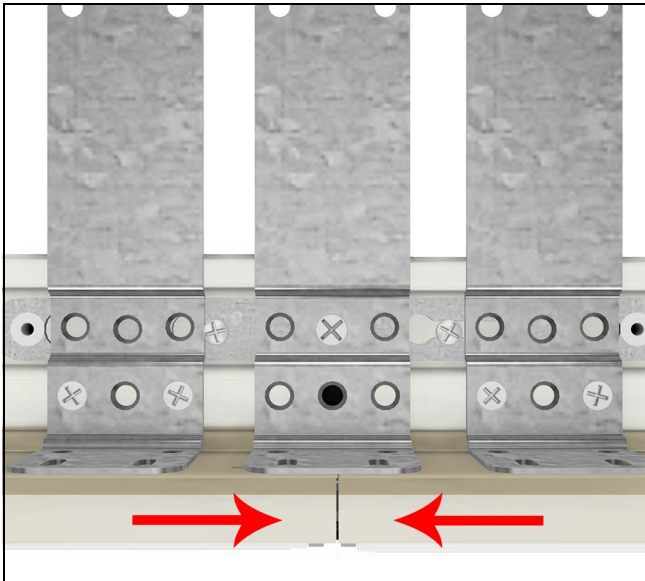
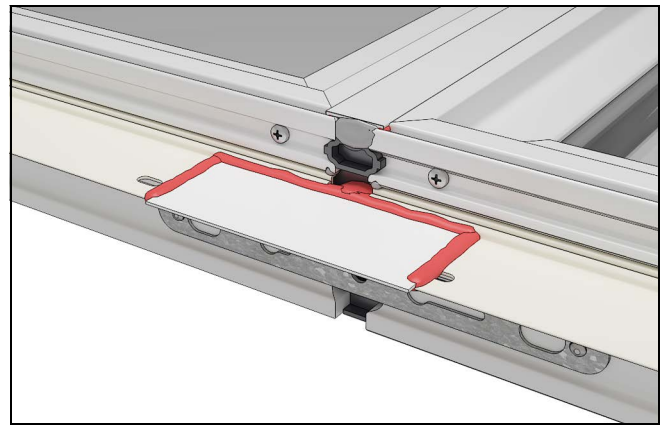

Figure 19
Figure 20
4. Apply nailing fins, nailing fin connector gaskets, and 90° bent structural brackets on the jamb and head jamb mullion joints. See Figure 19 and Figure 20.